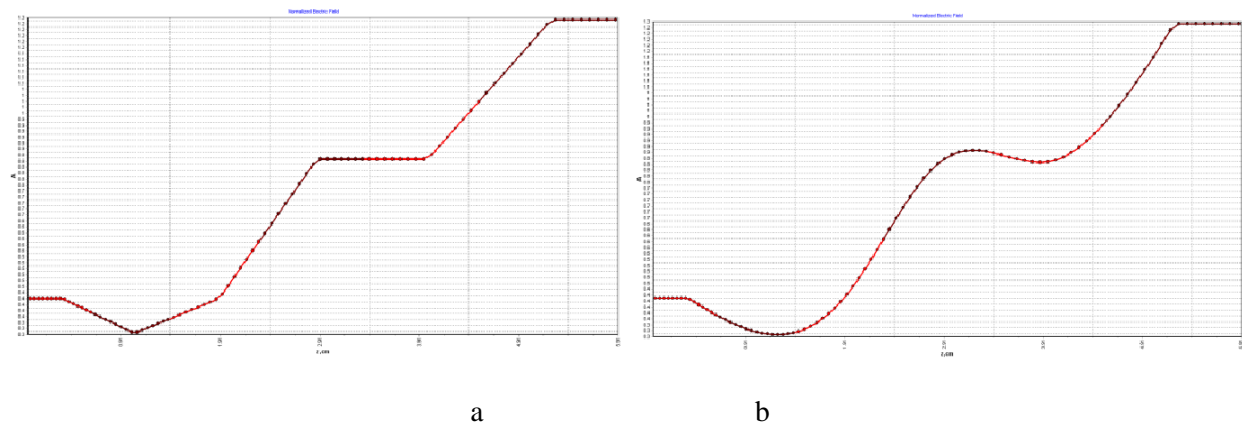

Fig. 4.2 Interpolation types (a-linear; b-cubic)
- Interpolation. Relative phase speed and value of accelerating electrical field are defined in the centers of cells. Then these values are interpolated for other mesh cells (Number of mesh points). In Figure 4.2 are presented 2 kinds of interpolations (linear and cubic). It is recommended to use linear interpolation to avoid nonphysical field oscillations. Smoothing spline can be used for example to obtain spectrum envelope.